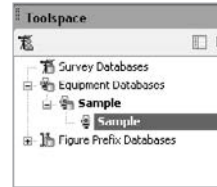

Figure 4.3
4. Switch to the Survey Toolspace. Click the plus sign (+) button to expand the Equipment Databases entry, and then click + again to expand the Sample equipment database as shown in Figure 4.3.